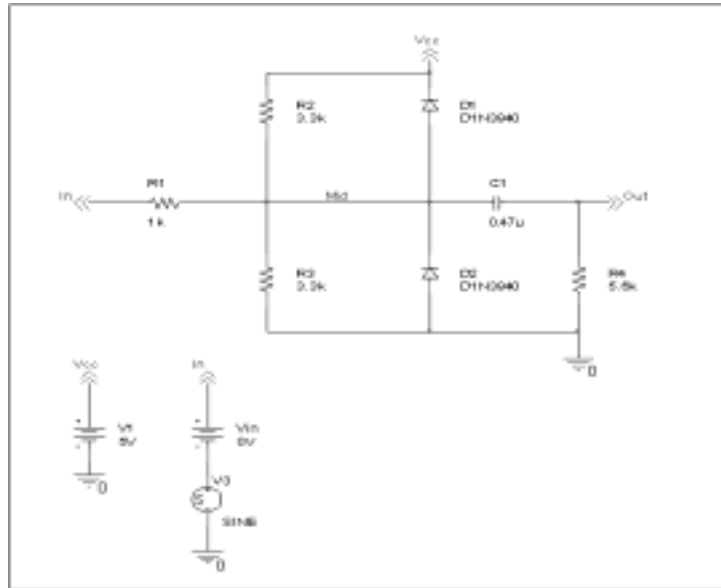

Figure 13 Diode clipper circuit with a voltage stimulus.
This example shows how to run a transient analysis on the clipper circuit. This requires adding a time-domain voltage stimulus as shown in Figure 13.
- 5 Place a VSTIM part (from the PSpice library SOURCESTM.OLB) as shown in Figure 13.
- 7 Place the ground part under the VSTIM part as shown in Figure 13.